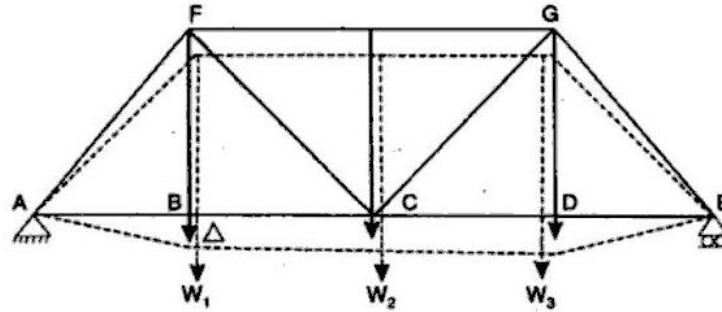

Fig. 1.1
Step 1. Suppose we want to determine the displacement at B of the truss in Fig. 1.1 due to the load system $W_1 W_2 W_3 = \{W\}$. We have to first solve for the internal forces $F_1 F_2 F_3 \dots F_n = \{F\}$ in the members due to $\{W\}$. This is a question of statics. We know that every member will have an additional elongation (or shortening) of $F_1/AE, F_2/AE, F_3/AE, \dots$ due to $F_1 F_2 F_3, \dots$. These member displacements will increase from 0 to (F/AE) as the internal forces increase from zero to $\{F\}$.